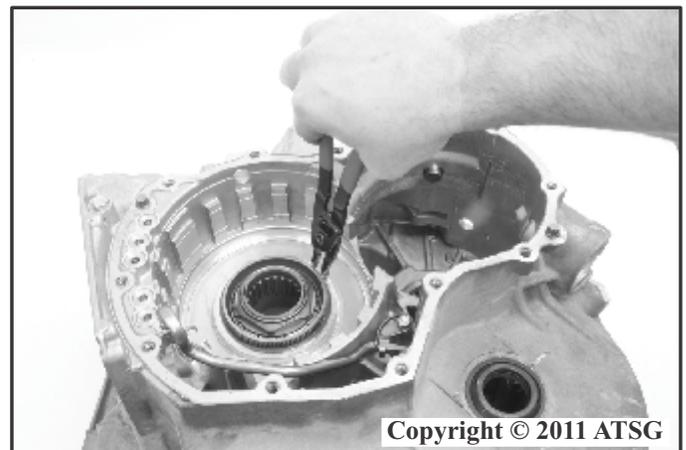

Figure 210
5. Install the output gear assembly into the transaxle case and install the output gear assembly retaining snap ring as shown in Figure 210.